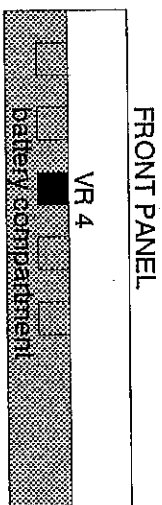

Fig. 2
- (4) Adjust the " Calibration Adjust Pot " (VR4, Fig. 2), located within the battery compartment, until the display indicates the value of the calibration solution.